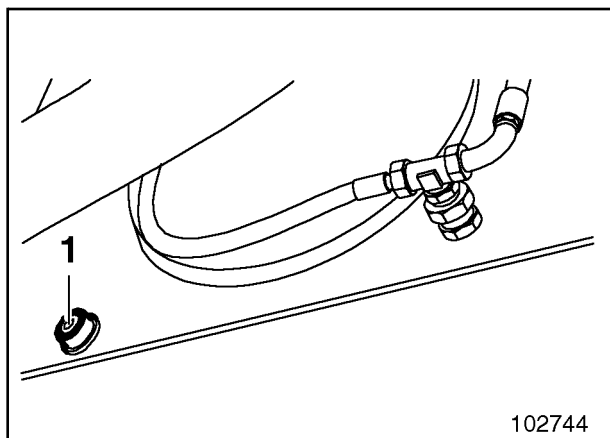
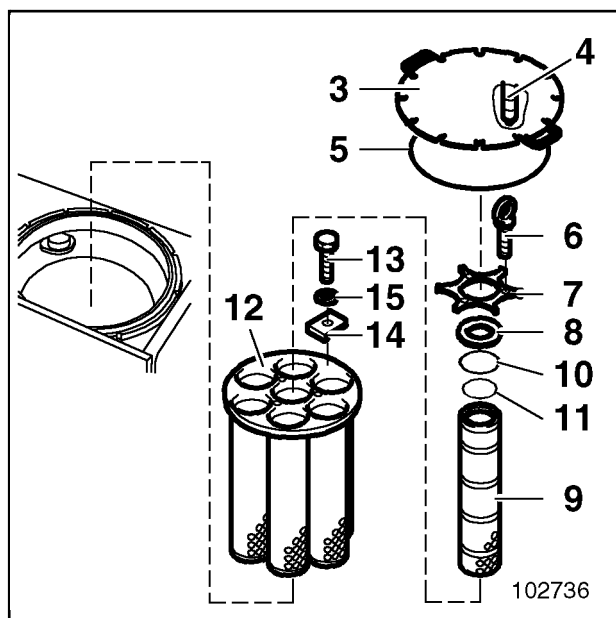

Fig. 32
Fig. 31
- Remove cover (3, Fig. 31).
- Place a collecting recipient for the flushing oil under the drain plug (1, Fig. 32) of the hydraulic oil reservoir.
- Unscrew drain plug (1).
- Screw drain plug (1) in again.
- Refit cover (3, Fig. 31).